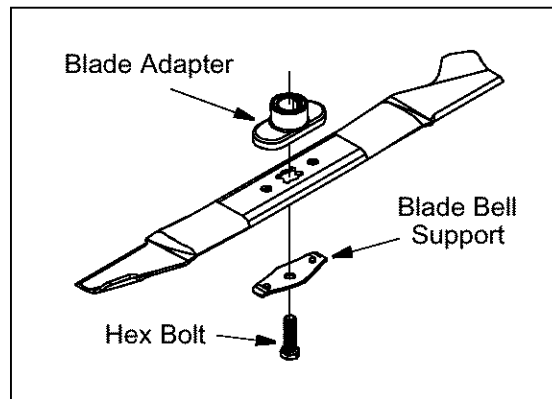

Figure 14
- Install the blade adapter on the crankshaft with the “star” away from the engine. See Figure 14.
- Place the blade bell support over the blade, aligning the tabs in the holes of the blade with the hole in the bell support and insert the hex bolt through the blade assembly. Refer to Figure 14 for the correct order of assembly.
- Remove the center bolt which secures the blade to the crankshaft. See Figure 14.